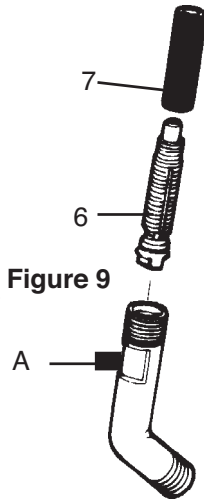
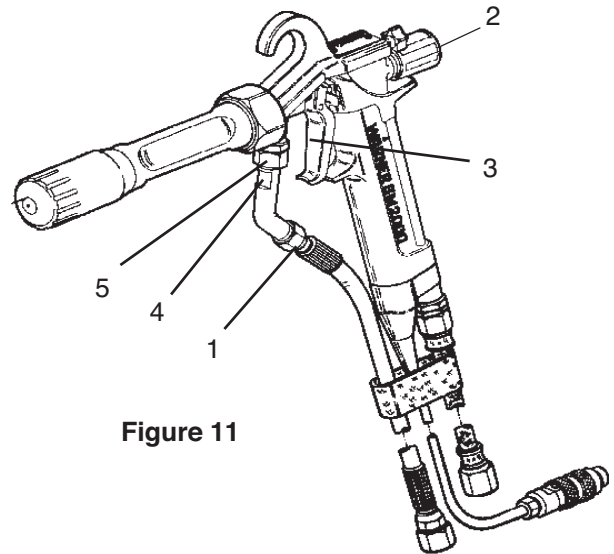

Figure 9
Figure 11
1. Disconnect material hose at fitting (1) Figure 11. Hold material connecting tube with the universal spanner wrench at surface (A).
2. Disconnect union nut (4). Do not allow locking nut (5) to rotate while disconnecting union nut.
3. Unscrew red filter screw (6). Figure 9.
4. Slip filter cylinder (7) from filter screw.
5. Rinse or replace filter cylinder, (7).
1. Actuate trigger (3) and unscrew trigger lock knob (2), remove the compression spring. Figure 11.
2. Remove screws holding trigger assembly in place and remove trigger (3). Figure 11.